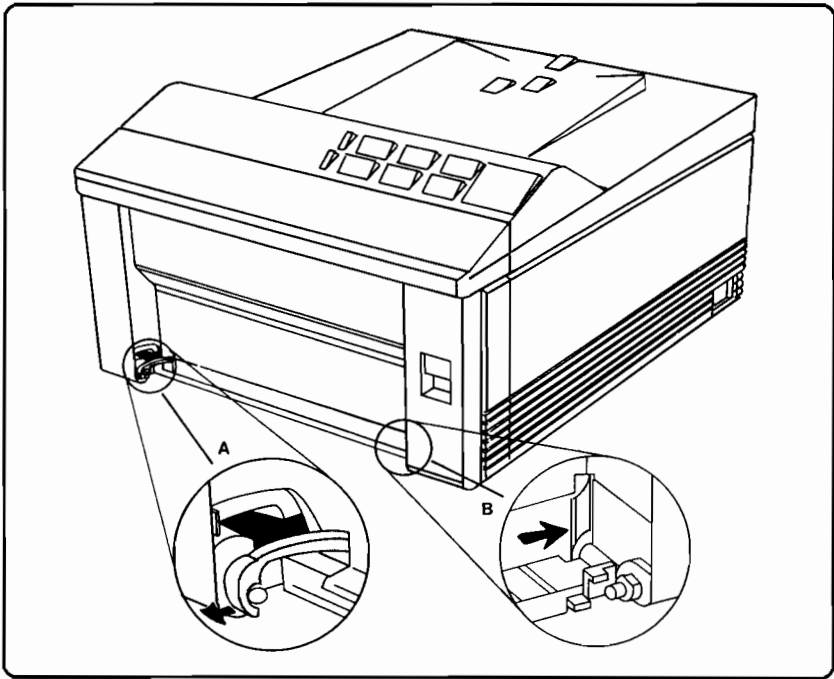

Figure 6-54. MP Tray Pressure Plate Removal (continued)
6. Unclamp the MP Tray Pressure Plate from the Paper Path Door by pulling the Pressure Plate Arm toward you (see Figure 6-54, detail A). Continue pulling to remove the MP Tray Pressure Plate from the bottom of the Paper Path Door.
When installing the MP Tray Pressure Plate, align it carefully so that the grounding spring plate rests against the side of the MP Tray Pressure Plate. Avoid bending the grounding spring plate (see Figure 6-54, detail B).